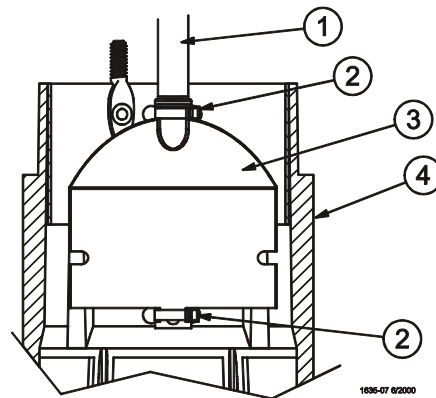

Figure 6. Installing the Sensor Switch
11. Slide the Sensor Switch (item 3) inside the Support Cone (item 4) and secure with two Nylon Wire Ties, as shown. See **Figure 6**.
**IMPORTANT:** The lock (item 2) portion of the Nylon Wire Tie must be to the inside of the Support Cone (item 4).